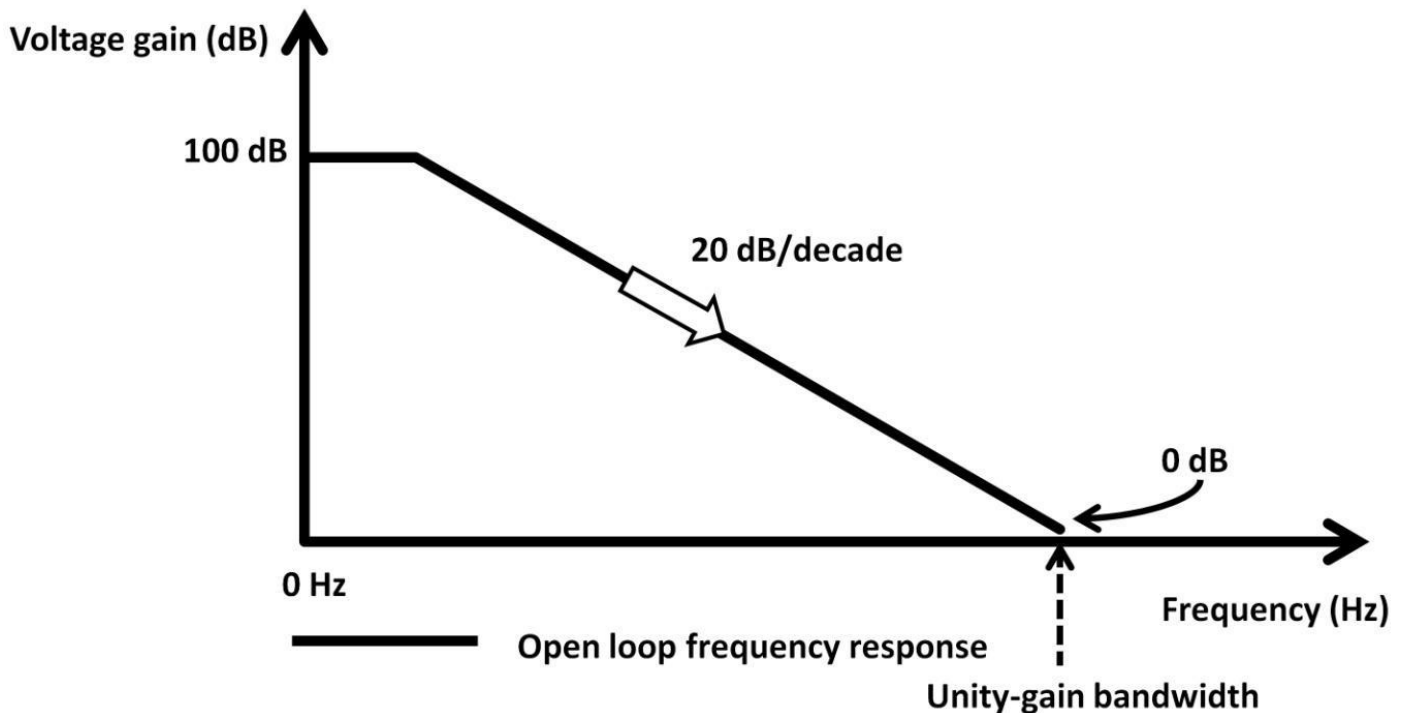

Figure 4.66: Op-amp frequency response
-Open-loop gain, bandwidth: Some use large signal voltage gain to represent open-loop gain. Instead of dB, some datasheets translate dB to V / mV to describe open-loop gain. For example, 100 V / mV is equivalent to 100 dB. $20 \log (100 / 1 \text{ m}) = 100 \text{ dB}$. Open-loop gain can be realized in a bode plot in frequency response (see figure 4.66). The open-loop gain is much larger than controlled closed-loop gain.